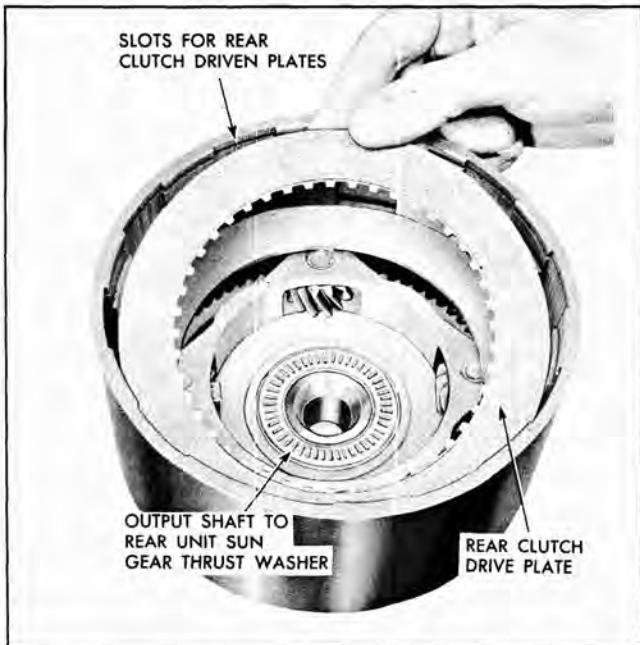
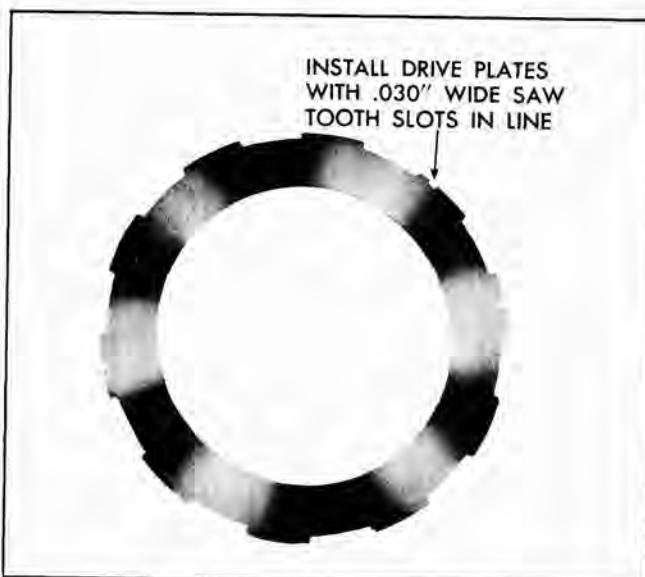

Fig. 88 Installing Rear Unit Clutch Plates
Fig. 89 Notches in Rear Unit Clutch Driven Plate
11. Position needle bearing and retainer in counterbore of output shaft and retain with petrolatum (Fig. 88).
12. Apply Hydra-Matic oil to faces of seven drive and seven driven plates, and alternately install them in rear unit drum. Start with drive (composition) plate and finish with driven (steel) plate. Assemble driven plates with lugs registering in rear unit drum slots (Fig. 88) and so .03" wide saw slots in driven plate lugs are all in line (Fig. 89). NOTE: Indexing the saw slots nests the plates together so that the